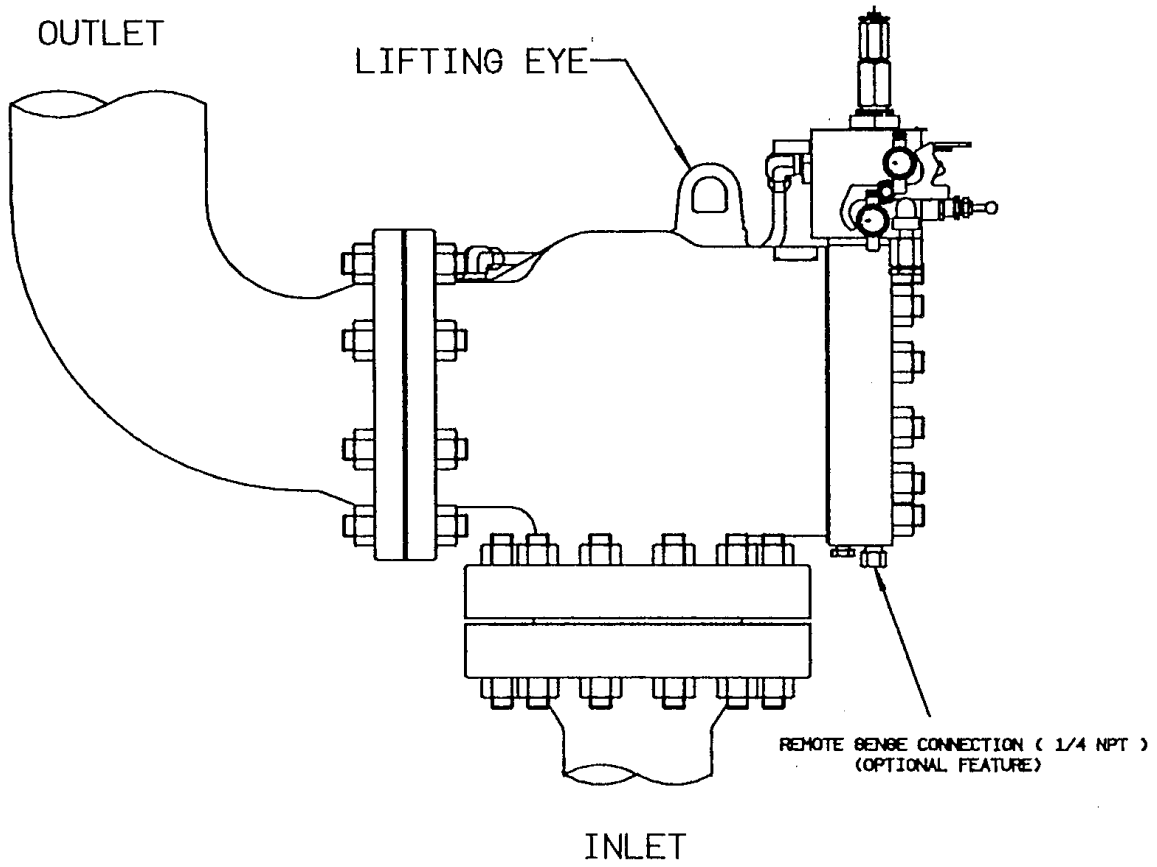

FIGURE 1
2.0 VALVE INSTALLATION (SEE FIGURE 1)
Mount the valve in a upright position with proper support to withstand system vibration. Refer to Figure 1. **WARNING: DO NOT INSULATE OR LAG ANY PORTION OF THE VALVE ASSEMBLY INCLUDING THE PILOT, ACCESSORIES, AND ASSOCIATED TUBING. FAILURE TO COMPLY WITH THIS WARNING MAY RESULT IN VALVE MALFUNCTION AND/OR SERIOUS DAMAGE TO VALVE COMPONENTS.**
A remote sense option is available for the Series 700 valves. If this option is selected, a remote sense connector will be installed in place of the rear (farthest from the main valve) bottom cap plug as shown in Figure 1. With this connector in place the main valve internal pitot tube is blocked and an external pressure sensing line must be installed for the pilots to function properly. The sense line must have the equivalent flow area of 3/8" tubing for line lengths up to 10 feet. For line lengths exceeding 10 feet, 1" or larger piping must be used. The remote sense line must also be sloped sufficiently so as to be self-draining, and must be well insulated to minimize condensate formation and freezing potential. Although it is strongly recommended that isolation valves not be installed in the remote sense line, full bore ball valves (bore same as ID of tubing / piping) may be used for this purpose if required. Use of other valve types / patterns for isolation is prohibited. Failure to comply with these guidelines may result in valve malfunction and / or spurious actuation.